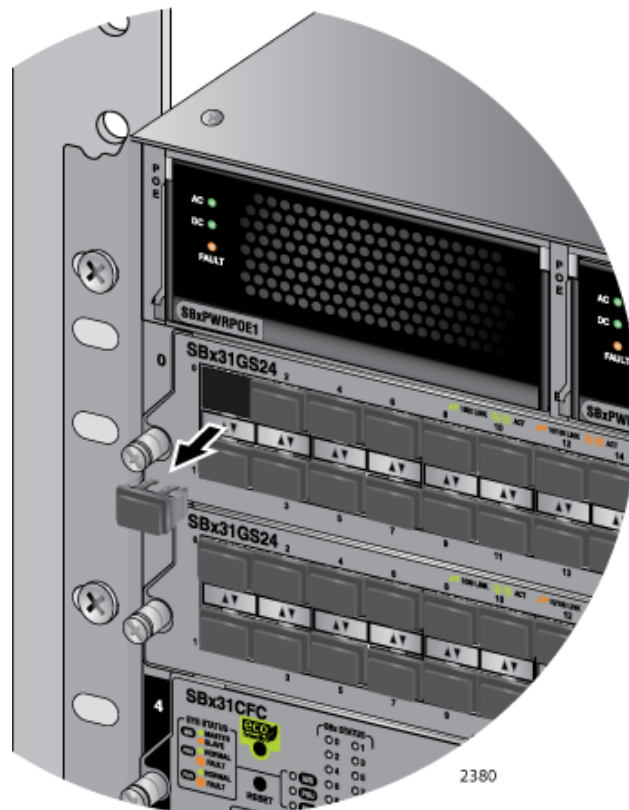

Figure 85. Removing the Dust Cover from an SFP Slot in the AT-SBx31GS24 Line Card
2. Remove the dust cover from the SFP slot chosen for the transceiver. In Figure 85 the dust cover is removed from port 0 on the line card in slot 0.